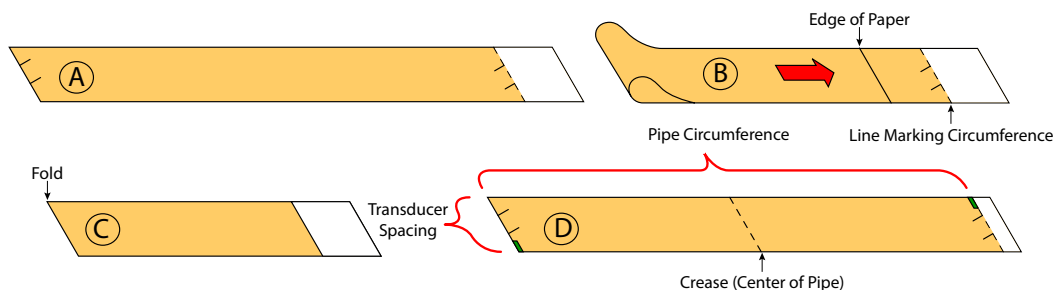

Figure 16: Bisecting the pipe circumference
3. Remove the template and spread it out on a flat surface. See "A" in Figure 16.
4. Fold the template in half, bisecting the circumference. See "B" in Figure 16.
5. Crease the paper at the fold line. Mark the crease. See "C" in Figure 16.